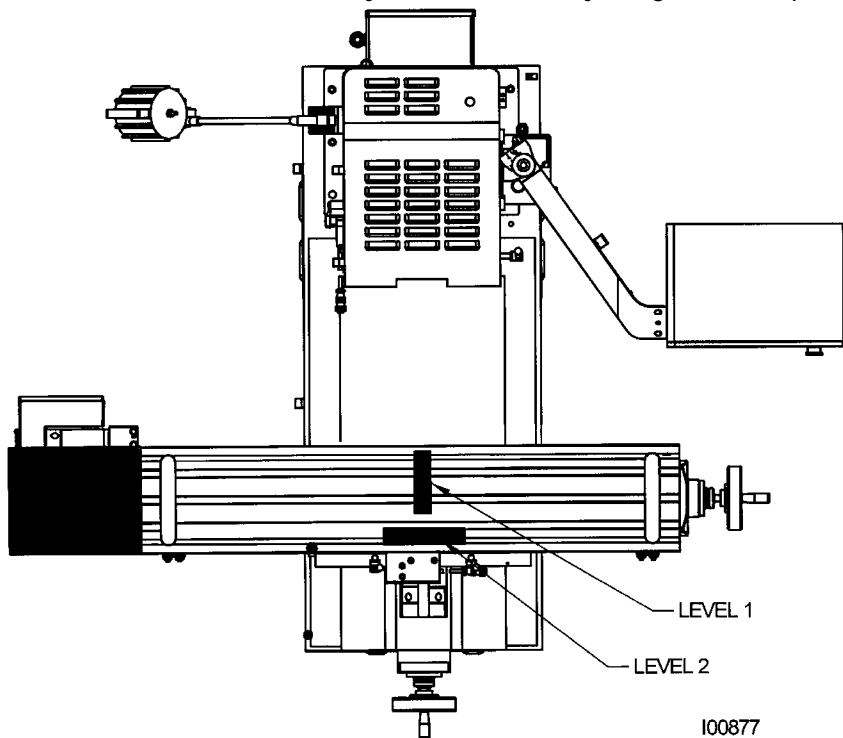

Figure 2-7 Placement of Levels
2. Put one or two precision Spirit Levels or Electronic Levels in the center of the table in the positions illustrated in Figure 2-7.